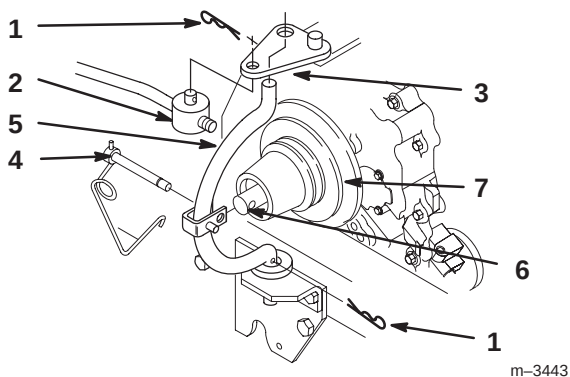

Figure 34
- Unlatch and remove locking clevis pin that secures yoke assembly to clutch shaft. Pivot yoke out and forward to remove from clutch shaft and engagement plate (Fig. 34).
- Replace belt in inside pulley groove (Fig. 34).
- Assemble yoke and engagement plate and attach locking clevis pin, trunnion and hairpin coppers to secure (Fig. 34).